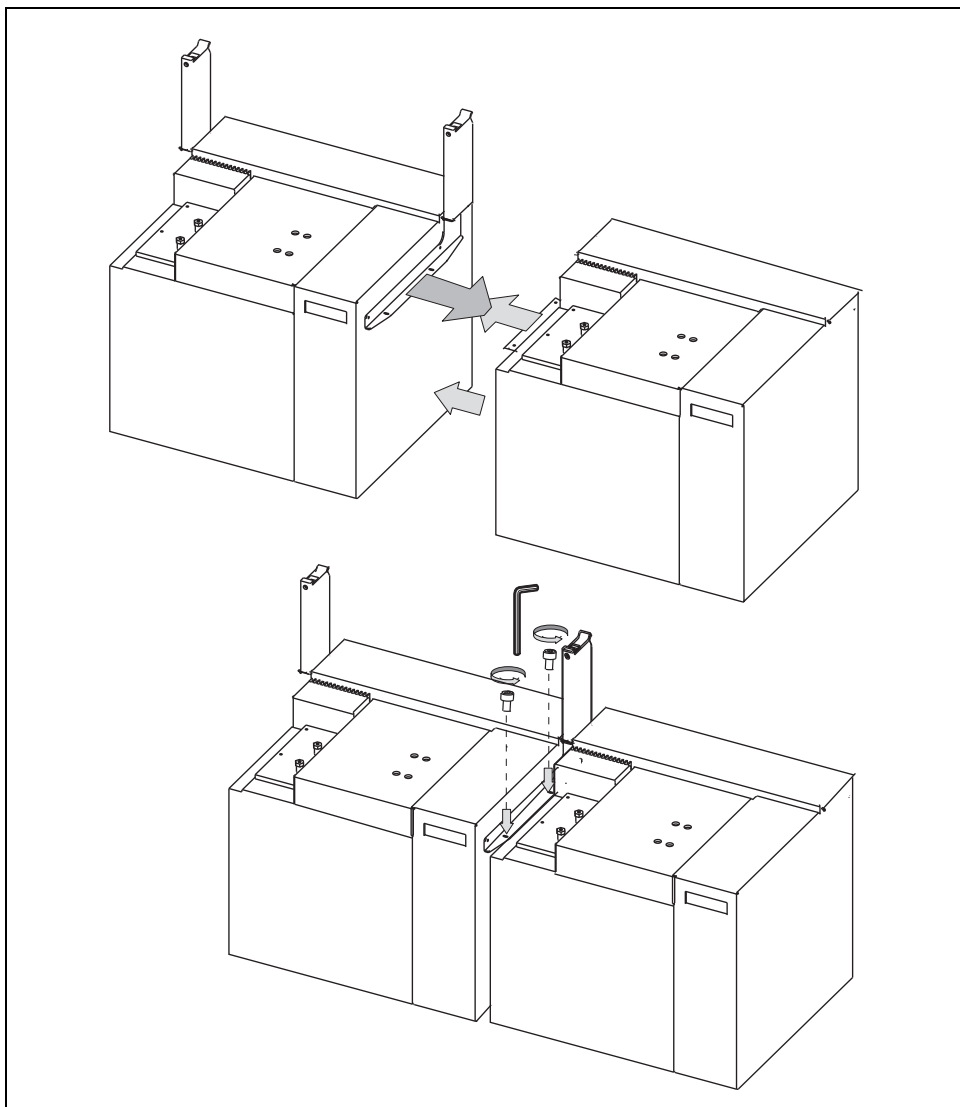

Figure 4-22. Agilent 6850 GCs Placing
7. Move the second GC besides the first one. Align the right sampler support of the first GC and the spacer plate of the second GC as shown in Figure 4-22, having care to fit the corresponding fixing holes.